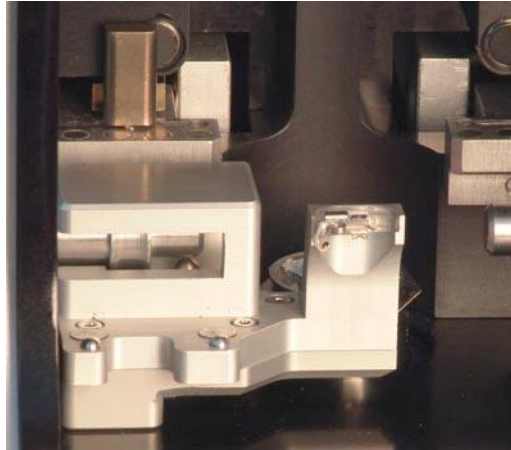

Fig. 6-24. STM head in position for exchanging the probe
- b) Turn the measuring head to you manually (Fig. 6-24).